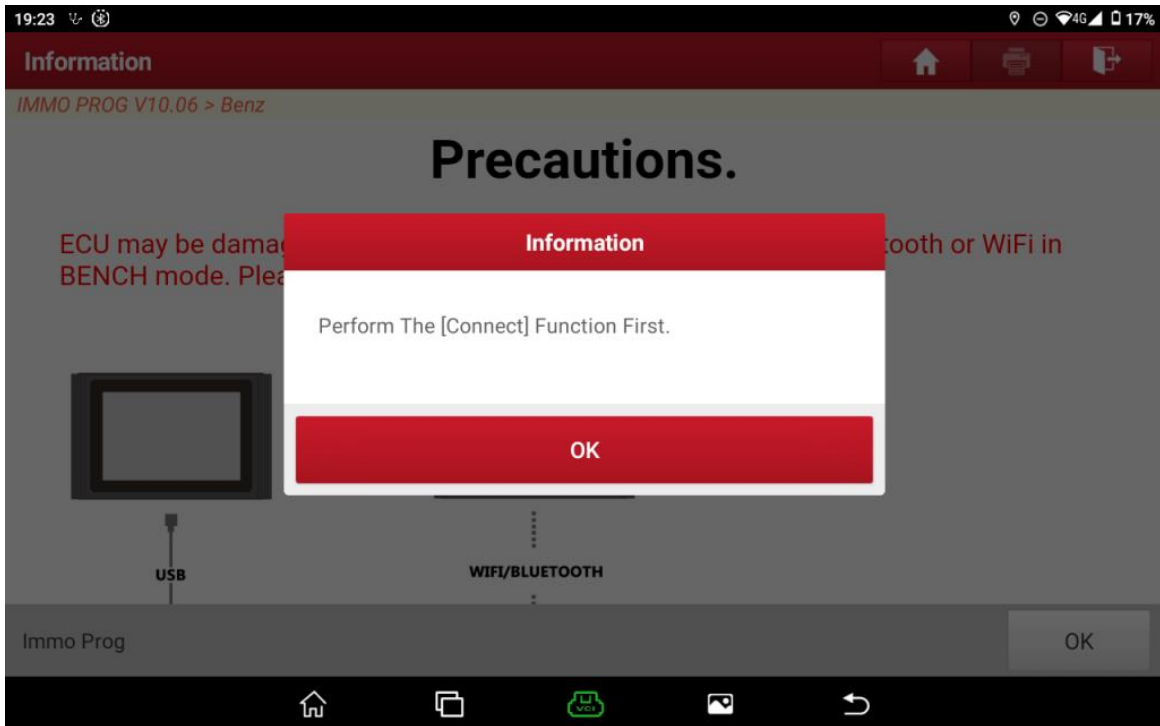

Figure 4
4. Click “OK” , please perform the [Connect] function first, as shown in Figure 4;